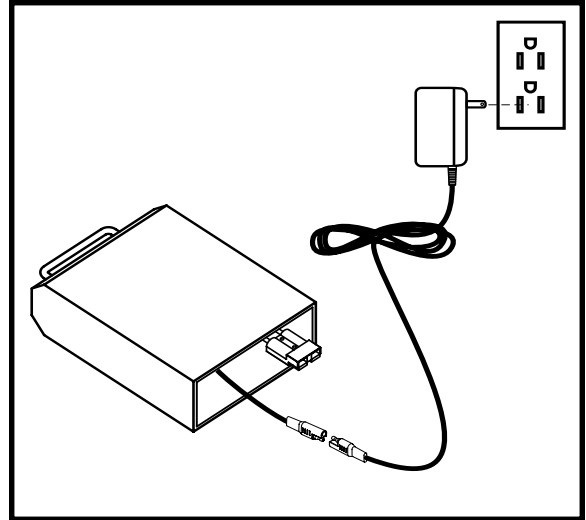

Figure 16. Battery Charging
2. Plug the charger cord into the mating socket located on the bottom of the battery case, then connect the charger cord to a standard electrical outlet. See figure 16.